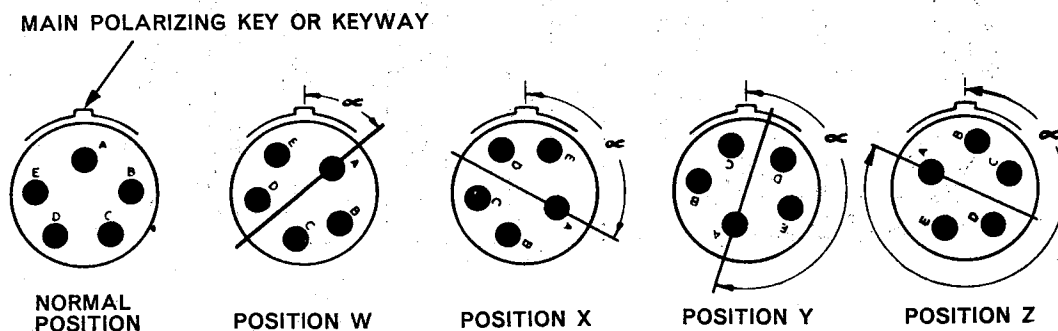

Fig. 6. Orientation features
9. In the insert orientations fig. 6 the pin insert is rotated clockwise relative to the main polarizing key or keyway as indicated:- The socket insert would thus be rotated anti-clockwise the same number of degrees. All the insert arrangements fig. 6, 7 and 8 show the mating face of the pin insert in the normal position.